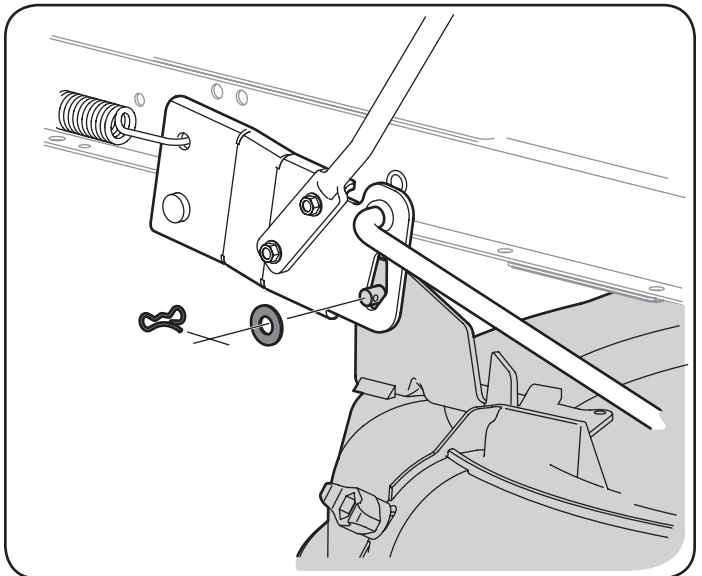

Figure 34
4. Remove the bow-tie cotter pin and flat washer from the deck lift assembly, and retain for reinstallation later. See Figure 34.